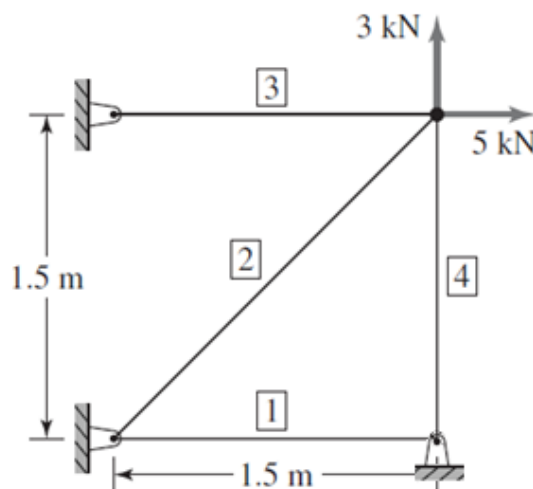

Figure 5
- 3A. The plane truss shown in Figure 5 is composed of members having a square 15 mm  $\times$  15 mm cross section and modulus of elasticity  $E = 69 \text{ GPa}$ . (07)
- 3B. Compute the axial stress in each element for the figure 5. (03)